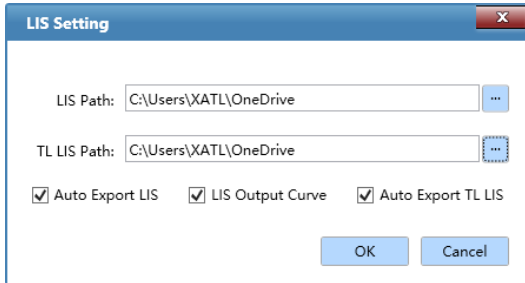

Figure E-3.9 Option submenu - LIS Setting Interface
2. **LIS Setting:** Users can set up saving path of LIS files. Click  icon and select a path from the pop-up Browse Folder or manually enter the path name in the input box to determine **Saving Path of LIS Files**, shown as figure E-3.9.